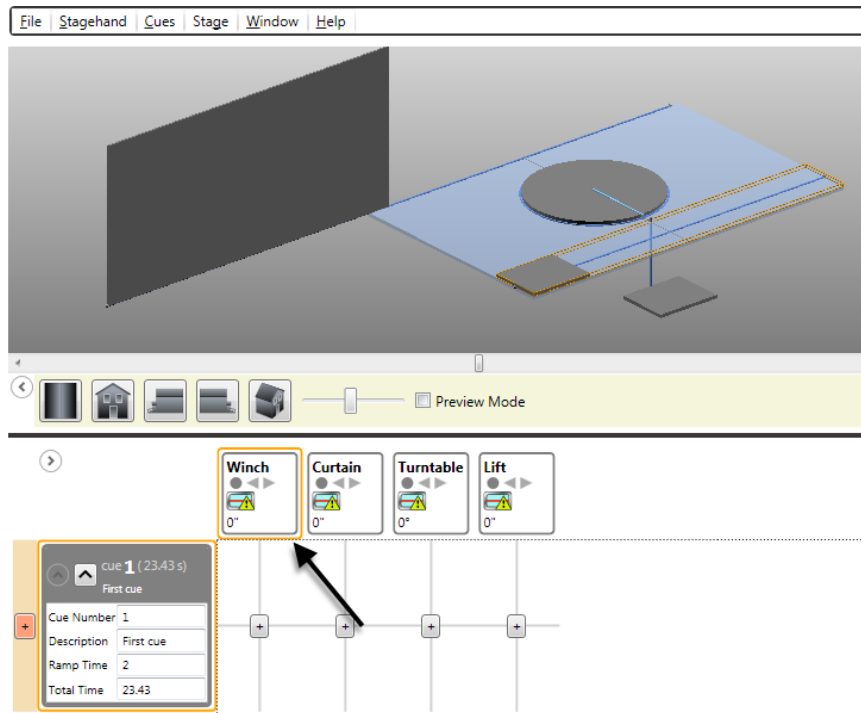

Figure 294
2. Select the motor to which you wish to add a **Spike** (Figure 294).